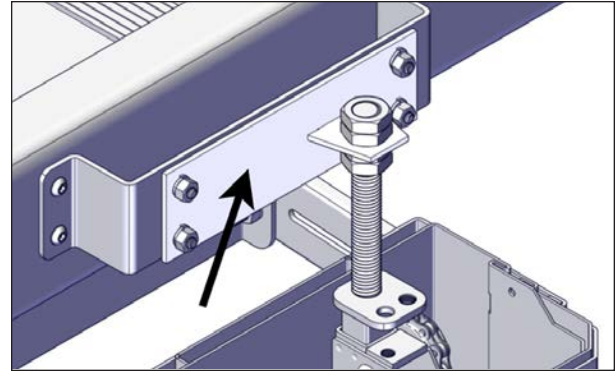

FIGURE 112: JACK ADAPTER SCREW REINSTALLATION
4. Gently slide down the sleeve assembly, see Figure 112.
5. Reinstall the jack adapters, but not the sleeves. Reinstall the 1/4-20 x 3/4" carriage bolts (4), see Figure 112.